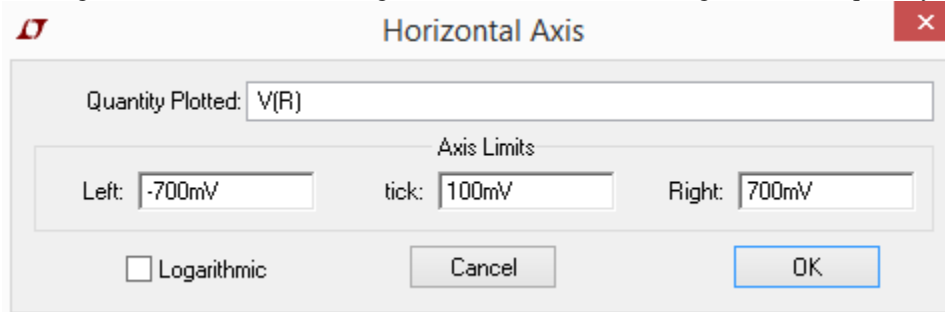

Figure A-6
- The problem with the plot above is that the current through the resistor is shown vs the voltage from the source. We need to voltage across the resistor. Thus, we now need to change the axis variable in the plot. This is easy to do in LTspice, but the procedure is not obvious. To change the horizontal axis variable, left-click your mouse on the name of the current being displayed. Note that I named the resistor R so I can easily identify the current through the resistor. I also named the node just above it with the same letter R so I can easily identify the voltage across the resistor. You should now have the cursor activated. Drag the cursor down until you are located over the horizontal scale. The cursor symbol will be replaced by the ruler you see when you change the vertical scales. Left-click again and you will see the Horizontal Axis window, shown in Figure A-6. Change the Quantity Plotted to the voltage just above the diode. This will be the diode voltage, because the other end is grounded. For the circuit in Figure A-4, the quantity is V(R).